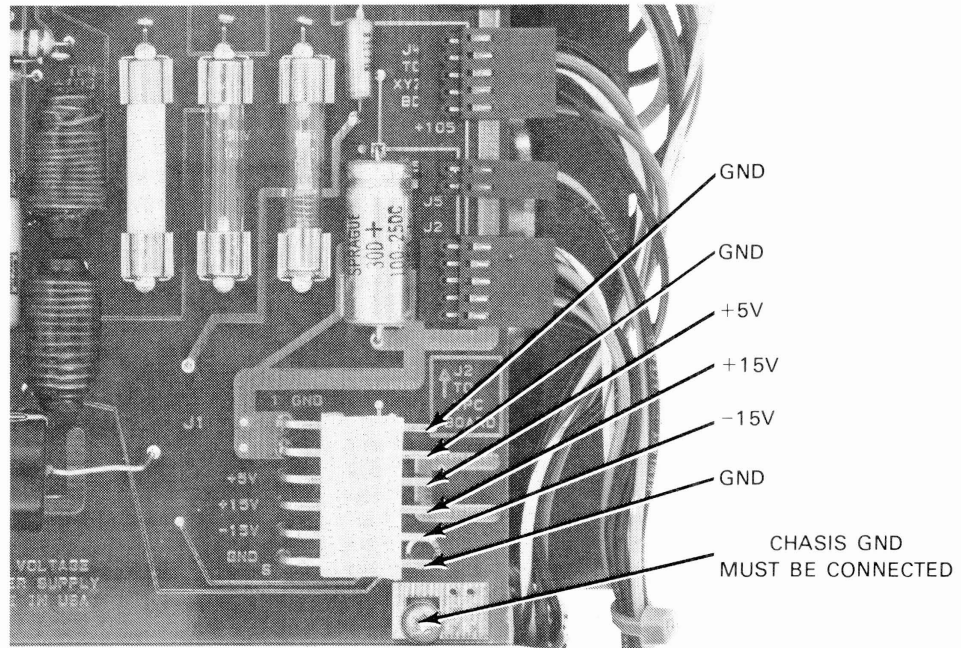

Figure 4-1. 1349A/D Power Connections
- b. Connect power supply to the 1349A/D and turn on power. (See figure 4-1 for power connections.)